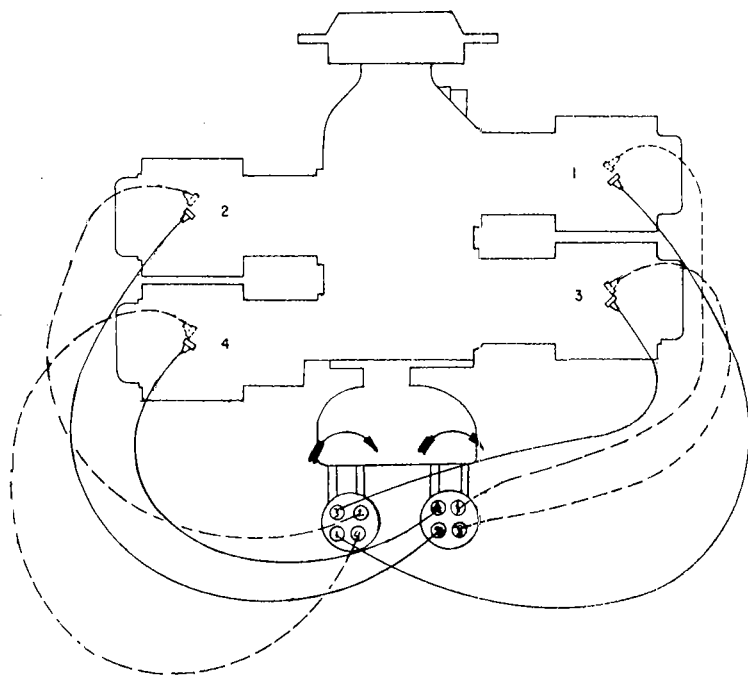

Figure 5-1. Ignition Wiring Diagram - Dual Magneto
(7) Hold the magneto in its No. 1 firing position (tooth in window center and pointer over R or L mark on rotor) and install magneto to the engine and loosely clamp in position.
(8) Attach red lead from the timing light to left switch adapter lead, green lead of timing light to right switch adapter lead and the black lead of the light to magneto housing.
(9) Turn the entire magneto in direction of rotor rotation until the red timing light comes on.
(10) Rotate the magneto in the opposite direction until the red light just goes off indicating left main breaker has opened. Then evenly tighten the magneto mounting clamps.
(11) Back the engine up approximately 10° and then carefully "bump" the crankshaft in direction of rotation, at the same time observing the timing lights.
(12) At the No. 1 firing position of the engine, the red light should go off indicating left main breaker opening. The right main breaker, monitored by the green light, must open within 2 engine degrees of the No. 1 firing position.
(13) Repeat steps (9) thru (11) until the condition described in paragraph (12) is obtained.
(14) Complete tightening of the magneto securing clamps by torquing to 150 inch pounds.
(15) Recheck timing once more and if satisfactory disconnect timing light. Remove adapter leads.
(16) Reinstall plugs in timing inspection holes and torque 12 - 15 in. lbs.
(17) Install the harness leads as shown in figure 5-1 to spark plug and connect switch lead to proper terminal.